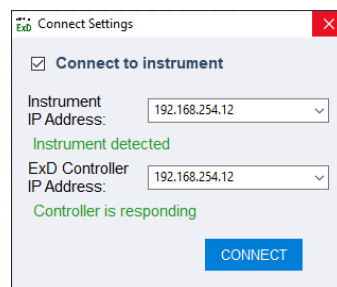

Figure 41. Configuring connection settings.
1. Hold **Shift** + click the **Connect** button to open the connection settings configuration window (**Figure 41**).